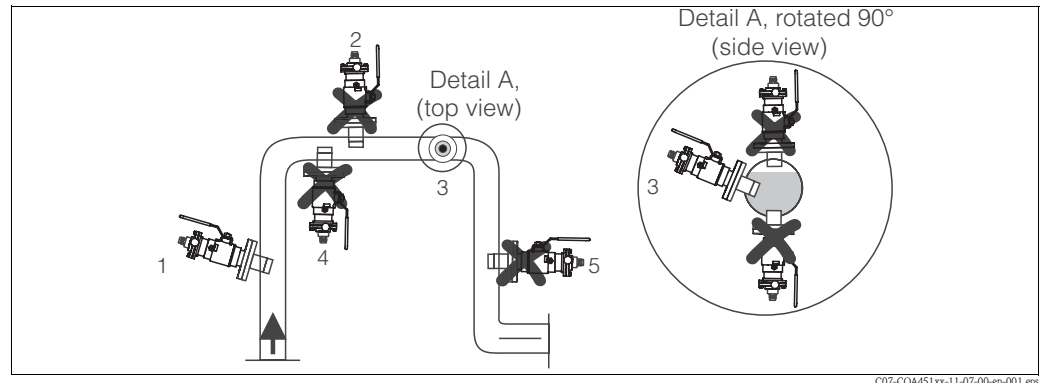

Fig. 13: Permissible and impermissible sensor installation positions
- Do not install the assembly at places, where air cushions or foam bubbles can be formed or where suspended particles can settle on the sensor optics (→ Fig. 13).